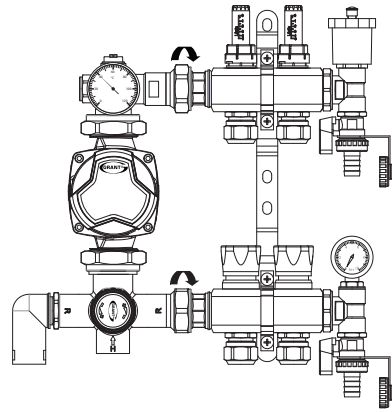

Figure 3-11: Connected pump set
2. Insert pump set into the spinning nuts for mixed manifold flow and return and tighten. Refer to Figure 3-11.